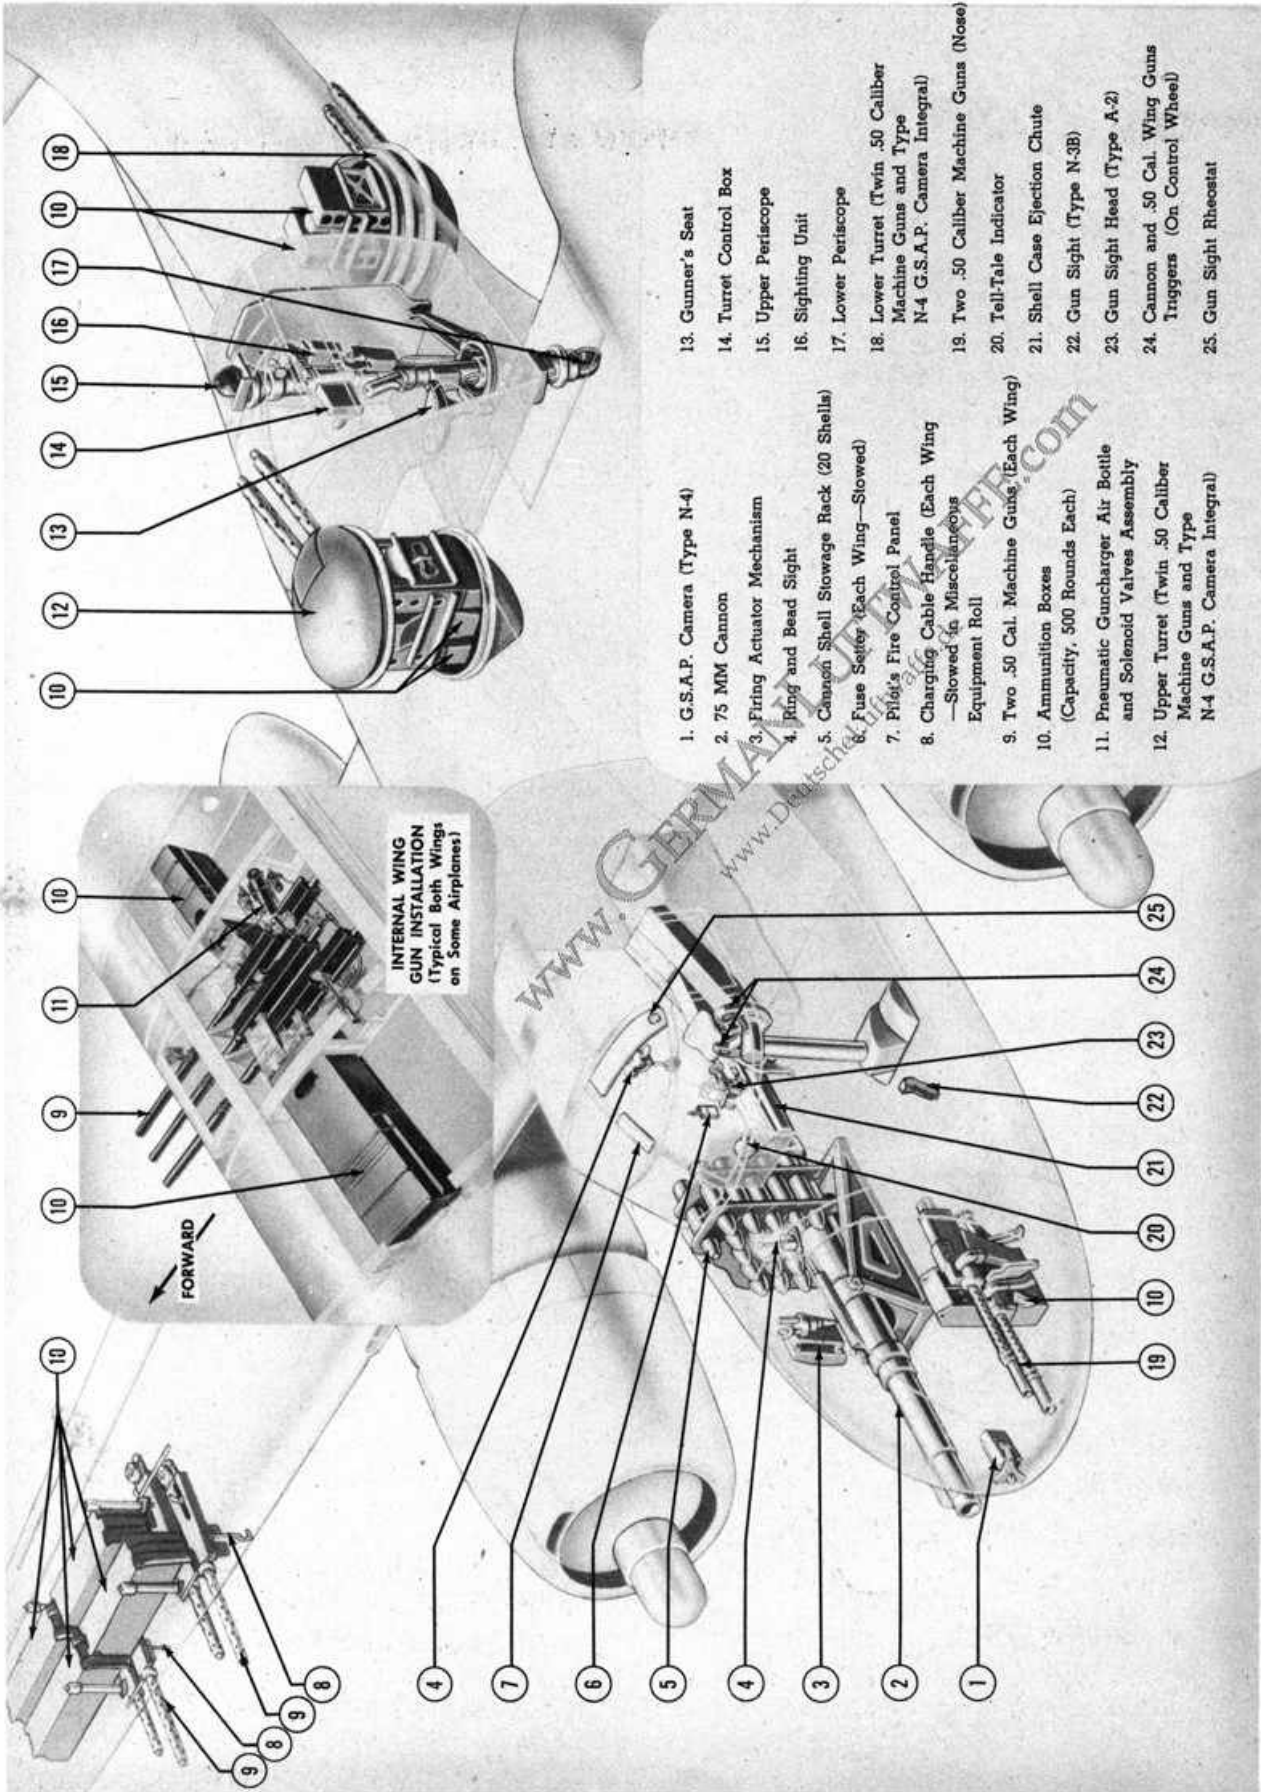

Figure 32 — Gunnery Equipment Diagram (On Some Airplanes)
a. RADIO EQUIPMENT.—The radio equipment installed in the airplane is arranged as shown in *figure 32* and consists of the following sets:
- (1) SCR-274-N COMMAND SET.—For airplane to airplane short range and airplane to ground operation.
- (2) SCR-595-A or SCR-695-A IDENTIFICATION EQUIPMENT.—For recognition purposes.